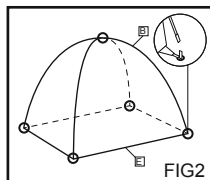

FIG2
3. Stand the inner tent<E> up and push the ends of the poles<B1> into the iron bars (which are on the each corner of the inner tent<E>).(FIG2)
4. Fasten the roof of the inner tent<E> onto the pole junction with the sewn-on tie.(FIG2)